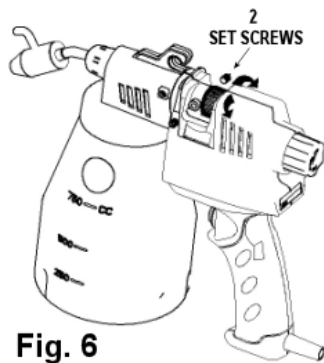

Fig. 6
5. **Knurled Adjusting Ring:** The knurled adjusting ring is used for positioning the front part of gun body. When the push rod is in the right position for the pump cylinder, the air pressure created by its reciprocating motion will reach the most appropriate spraying force for cleaning. (*Note:* The factory settings are ready for optimal performance). If any adjustment needs to be made, loosen the two set screws on the front body. Turn the knurled adjusting ring clockwise or counterclockwise. Tighten the two set screws when the desired spray condition is achieved. See Fig.6.